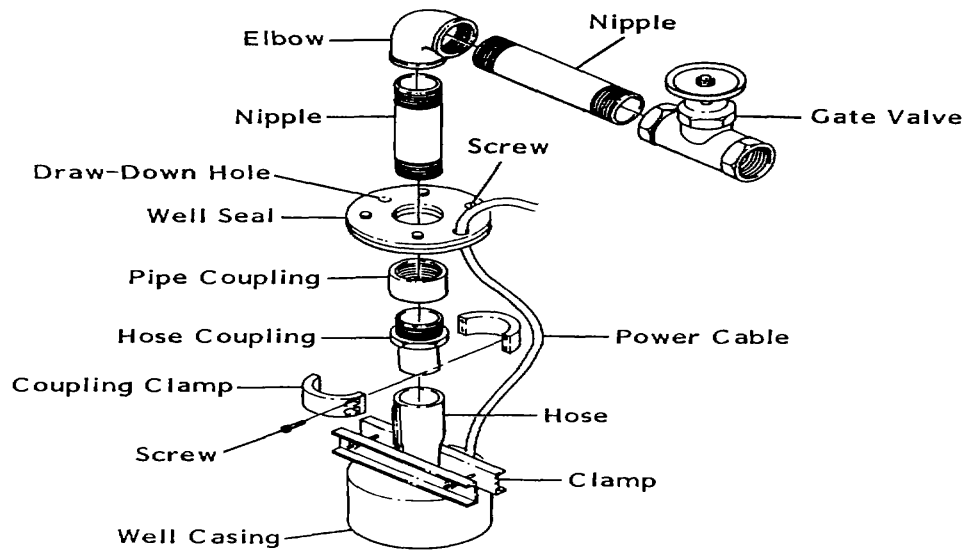

Figure 2-52. Sealing the Well.
- (2) Chemicals should remain in water 10 to 12 hours before starting pump.
- (3) After the pump is activated, water may be tested and chemicals added as needed through the draw-down hole in the well seal plate (see figure 2-52).
- (1) Assemble a hose clamp to the hose at the top of the well casing, relieving the weight on the clamp at the rig tender. Then, use a sharp knife or hacksaw to cut the drop hose, squarely, about 10-12 inches above the clamp at the well (see figure 2-52).
- (2) Install the nose coupling in the hose and assemble the coupling clamp in a manner similar to that of the opposite end of the hose.
- (3) Unroll the power cable to the length necessary to reach the starter panel and cut the power cable. Insert power cable through the smaller hole in the well seal.